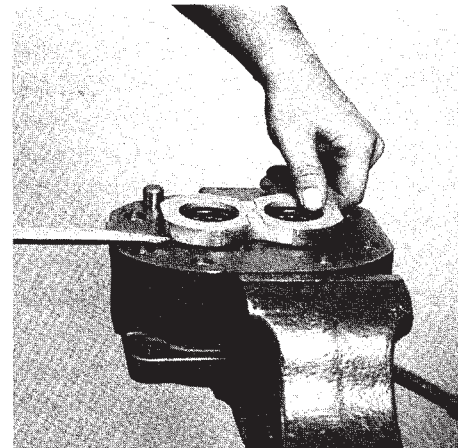

FIGURE 3
6. Remove wear plates and seals from both the front and rear covers. (Figure 3)